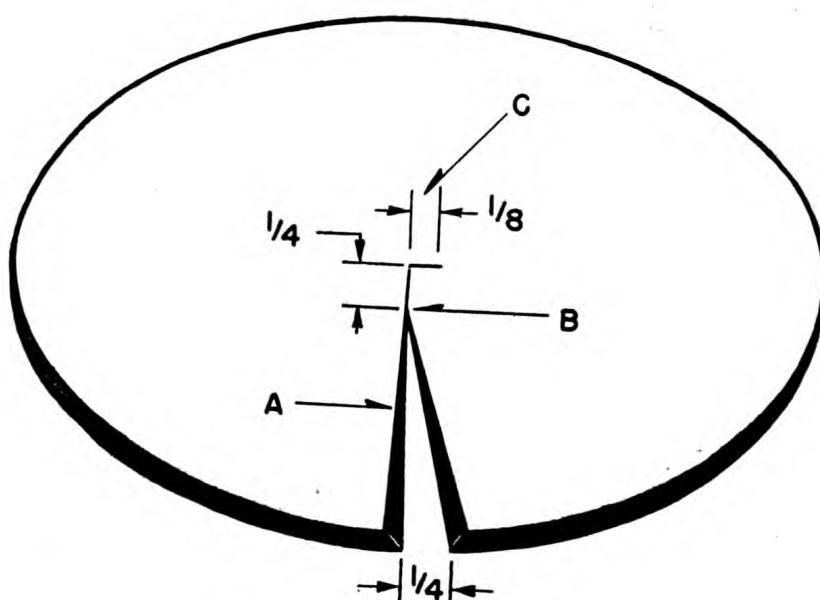

Figure 195.—Corner patch.
Holding the knife at a 45-degree angle, make a radius cut in each patch running from the edge to the center (A). At the end of the cut (in the center of the patch) make a slit to the right,  $\frac{1}{8}$  inch in length (C). Now make a 45-degree bevel cut—starting  $\frac{1}{4}$  inch from the center (B) and extending it to the edge of the patch— $\frac{1}{4}$  inch from the original cut. Take a good look at figure 195 before you start cutting.